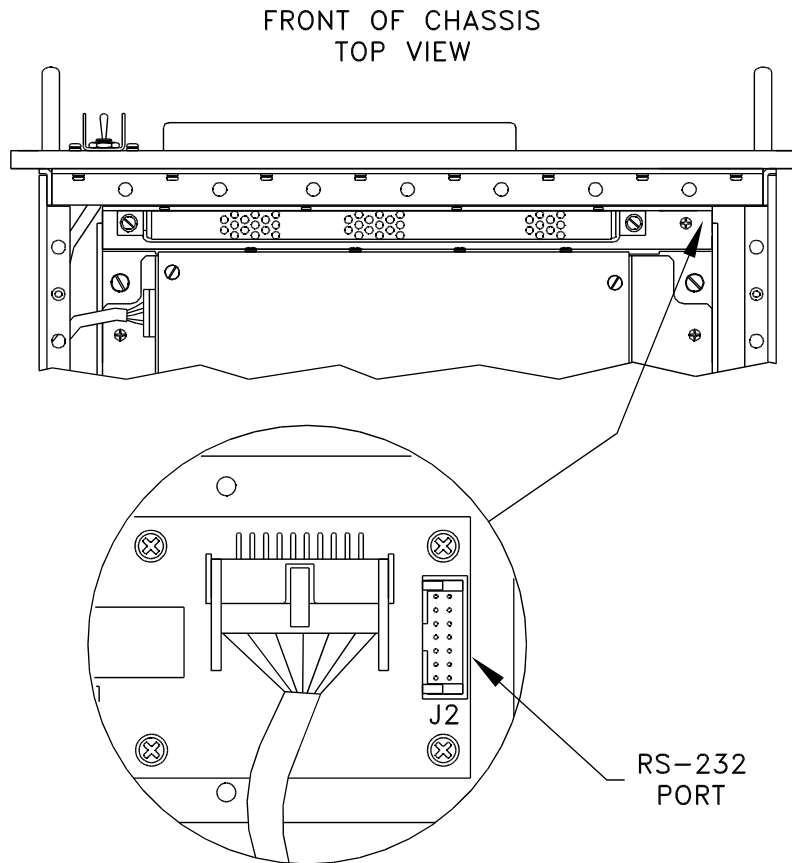

Figure 6-1. SEMB RS-232 Interface Connector
- a. Remove the interface cable connector from the RS-232 (J2) connector of the SEMB (Figure 6-1).